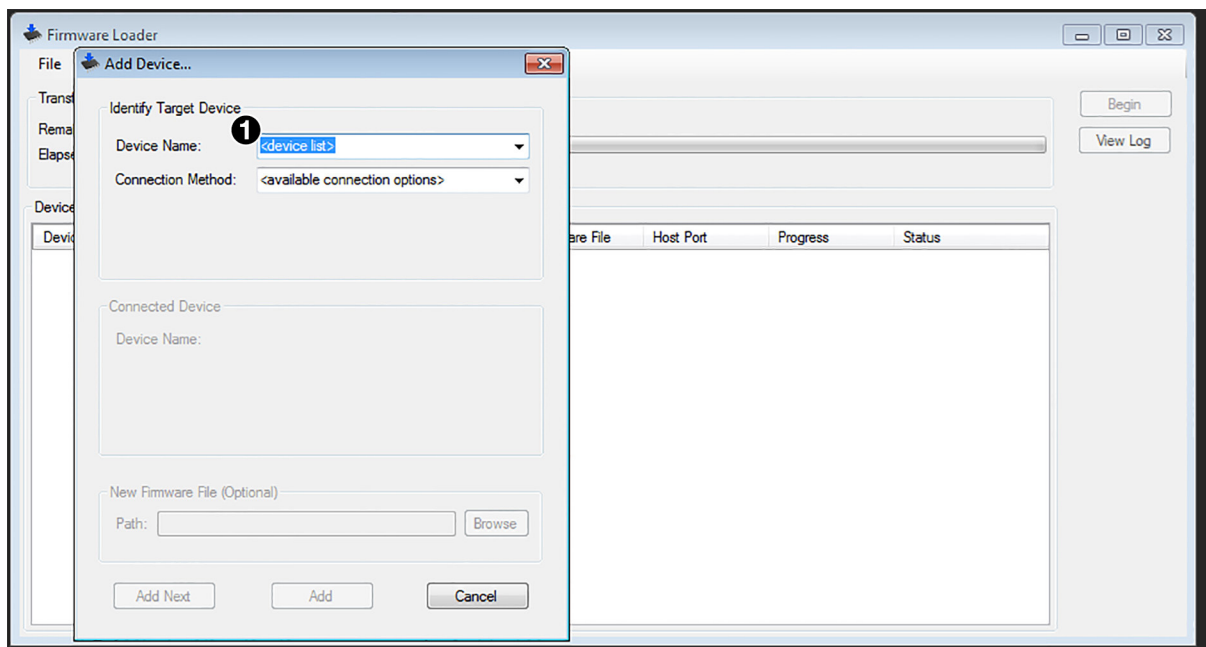

Figure 18. Firmware Loader Window with Add Device Dialog Box
5. On the Add Device window, select **DVC RGB-HD A** from the **Device Name** drop-down menu (see figure 18, ①).